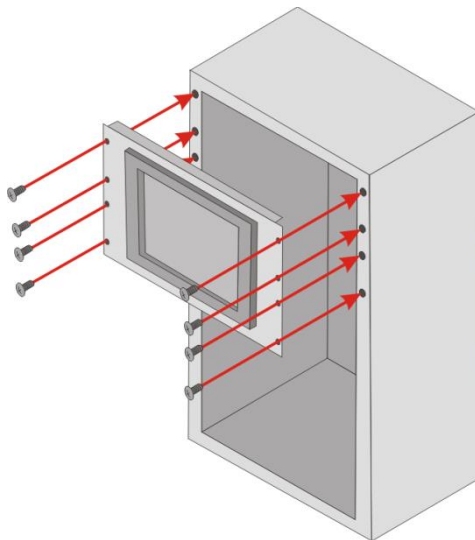

Figure 3-29: Install into a Rack/Cabinet
Step 10: Slide the PPC2-xxx-ADLP Series with the attached rack/cabinet bracket into a rack or cabinet (**Figure 3-29**).
Step 11: Once the flat panel PC with the attached rack/cabinet bracket has been properly inserted into the rack or cabinet, secure the front of the rack/cabinet bracket to the front of the rack or cabinet (**Figure 3-29**).